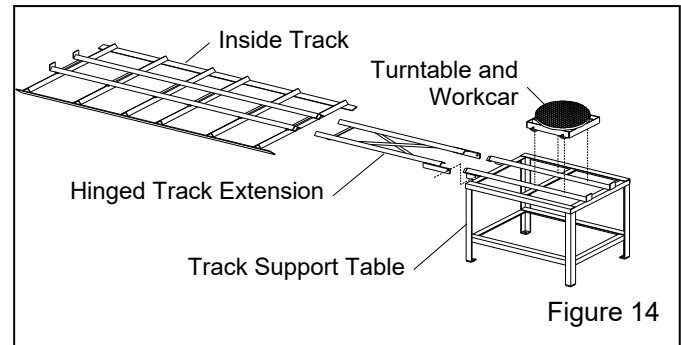

Figure 14
3.5.1 Components of the turntable and track assembly are shown in Figure 14. The assembly consists of: